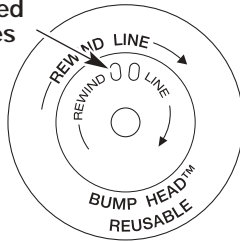

Fig. 15
**NOTE:** SplitLine™ can only be used with the inner reel with the slotted holes. Single line can be used on either type of inner reel. Use Figure 15 to identify the inner reel you have.